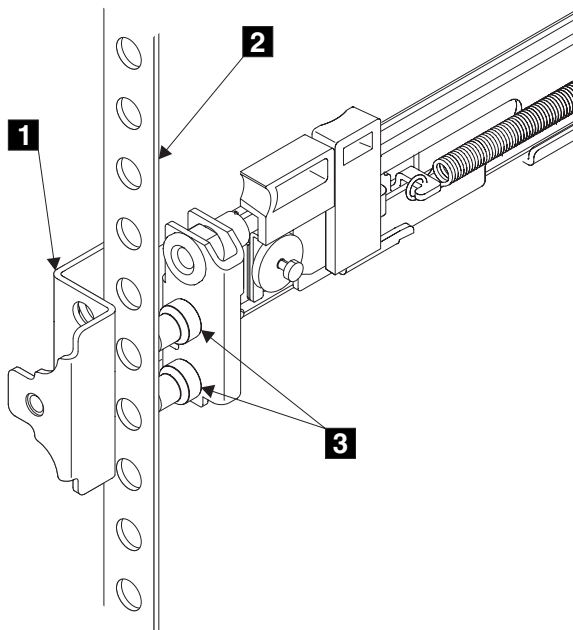

Figure 123. Installing the front end of the rail
6. Place the front end of the left rail in the rack cabinet. Align the top of the front bracket **1** (Figure 123) with the required EIA marking that is on the rack.